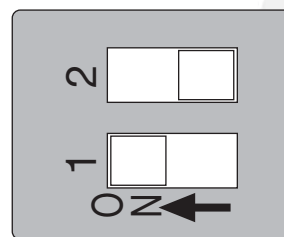

Figure 11-5: DIP switch
3. Set the lower DIP switch (1) to ON (move it to the left). Refer to Figure 11-5.